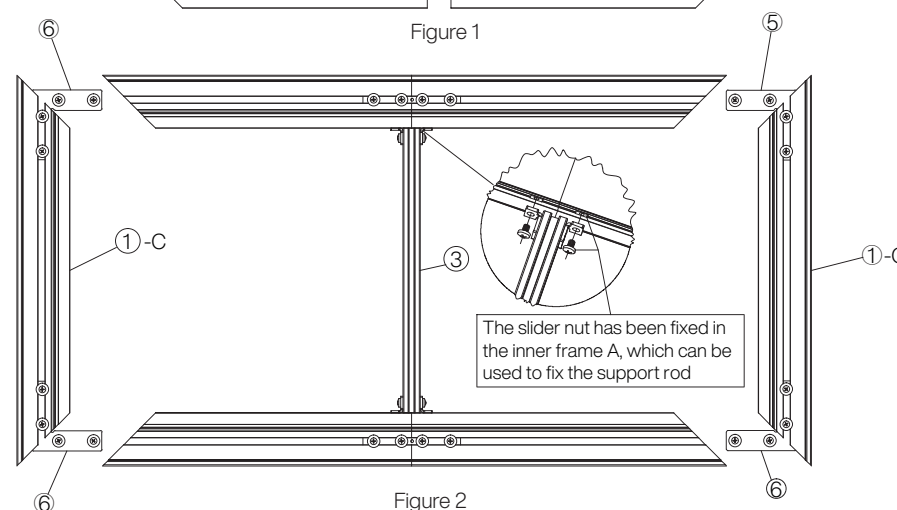
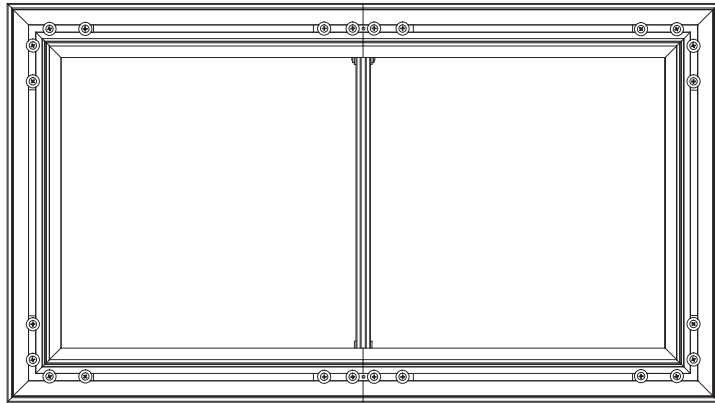

Figure 2
Figure 3
- 2.4 Assemble the four inner frames and struts as shown in the figure below, and lock them with screws after the inner frame is assembled (Figure 2, Figure 3);